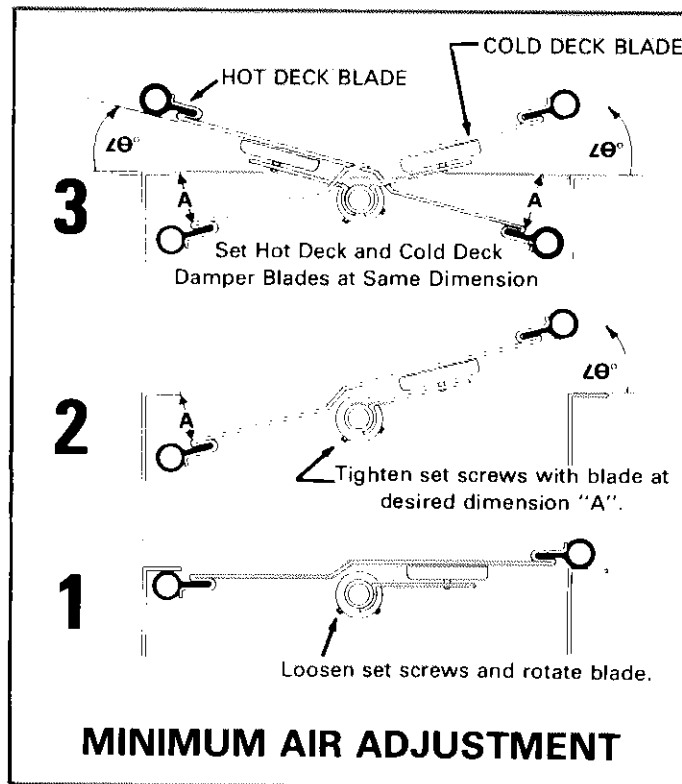

FIGURE 121
- 3 - Loosen 2 set screws holding hot deck damper magnet arm to shaft. Refer to Figure 121. See Table 19 for percentage of air versus dimensional opening of blade. Turn magnet arm and blade clockwise until desired opening is obtained and then tighten set screws.
- 4 - Loosen 2 set screws holding cold deck damper magnet arm to shaft. Turn magnet arm and blade counterclockwise until the opening matches the hot deck blade. See Figure 121. Tighten set screws.